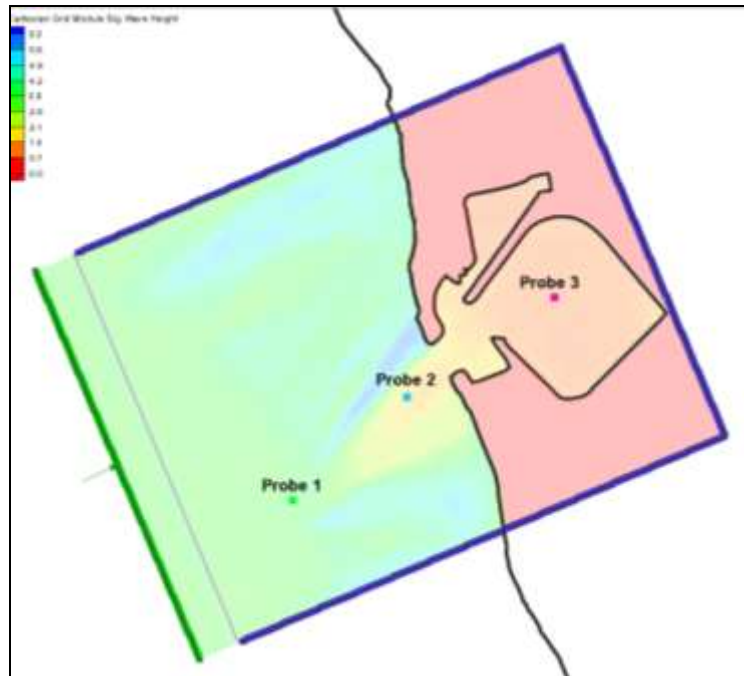

Figure 5 Probe positions
4. Using the **Select Grid Cell**  tool, hold down the *Shift* key and select three cells in roughly the same position as those shown in Figure 5.